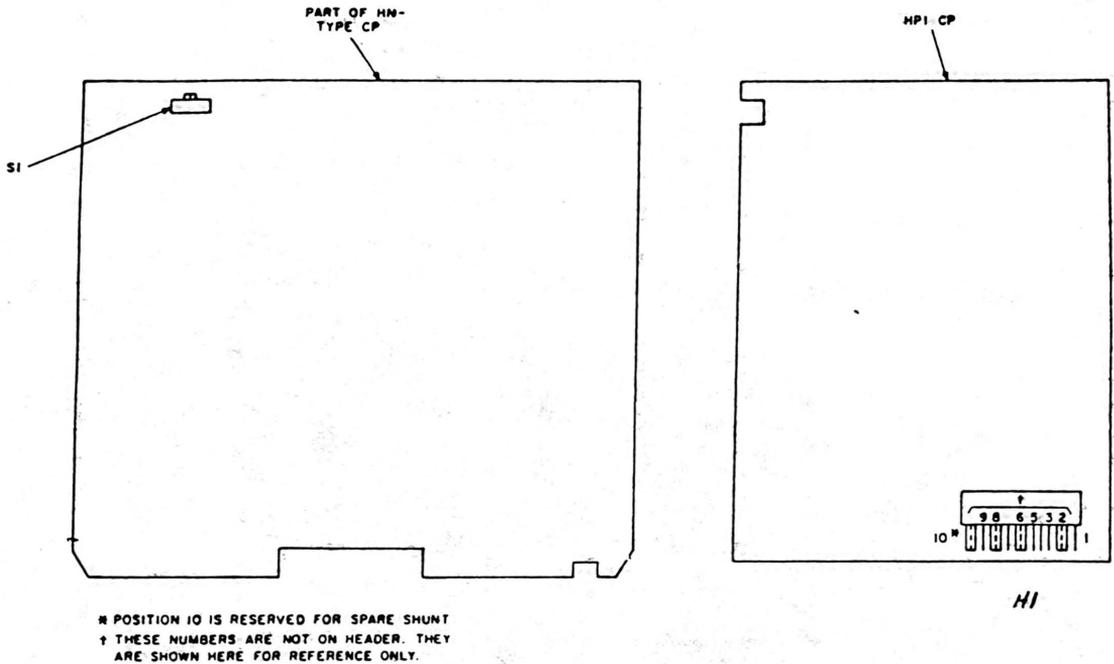

Fig. 1— DSU Option Switch and Headers
**2.02** Circuit pack HP1 contains a right angle header H1 and HN-type CPs contain switch S1. The switch and header locations are shown in Fig. 1. To gain access to the header, the front and rear faceplates must be removed. Both faceplates are removed by depressing the two tabs located on the bottom edge and simultaneously pulling outward. To replace the faceplates, hook the tabs on the aluminum housing into the slots on top and gently snap the bottom edge of the faceplates into position.